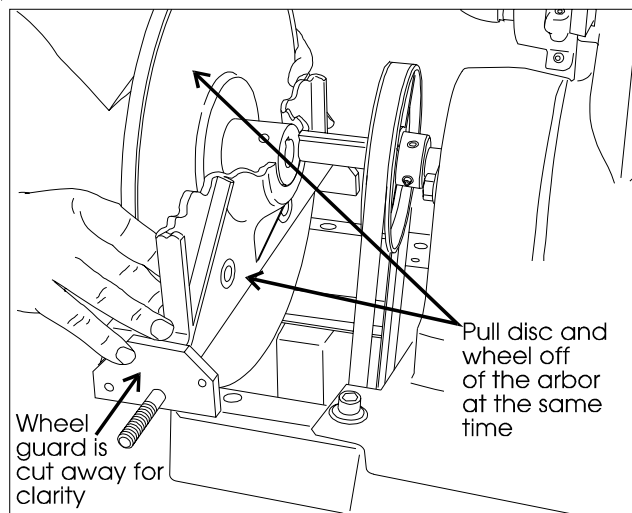

Figure 13: Removing the guard and drive disc, together.
6. Slide the disc and its guard off of the machine, together (See Figure 13).